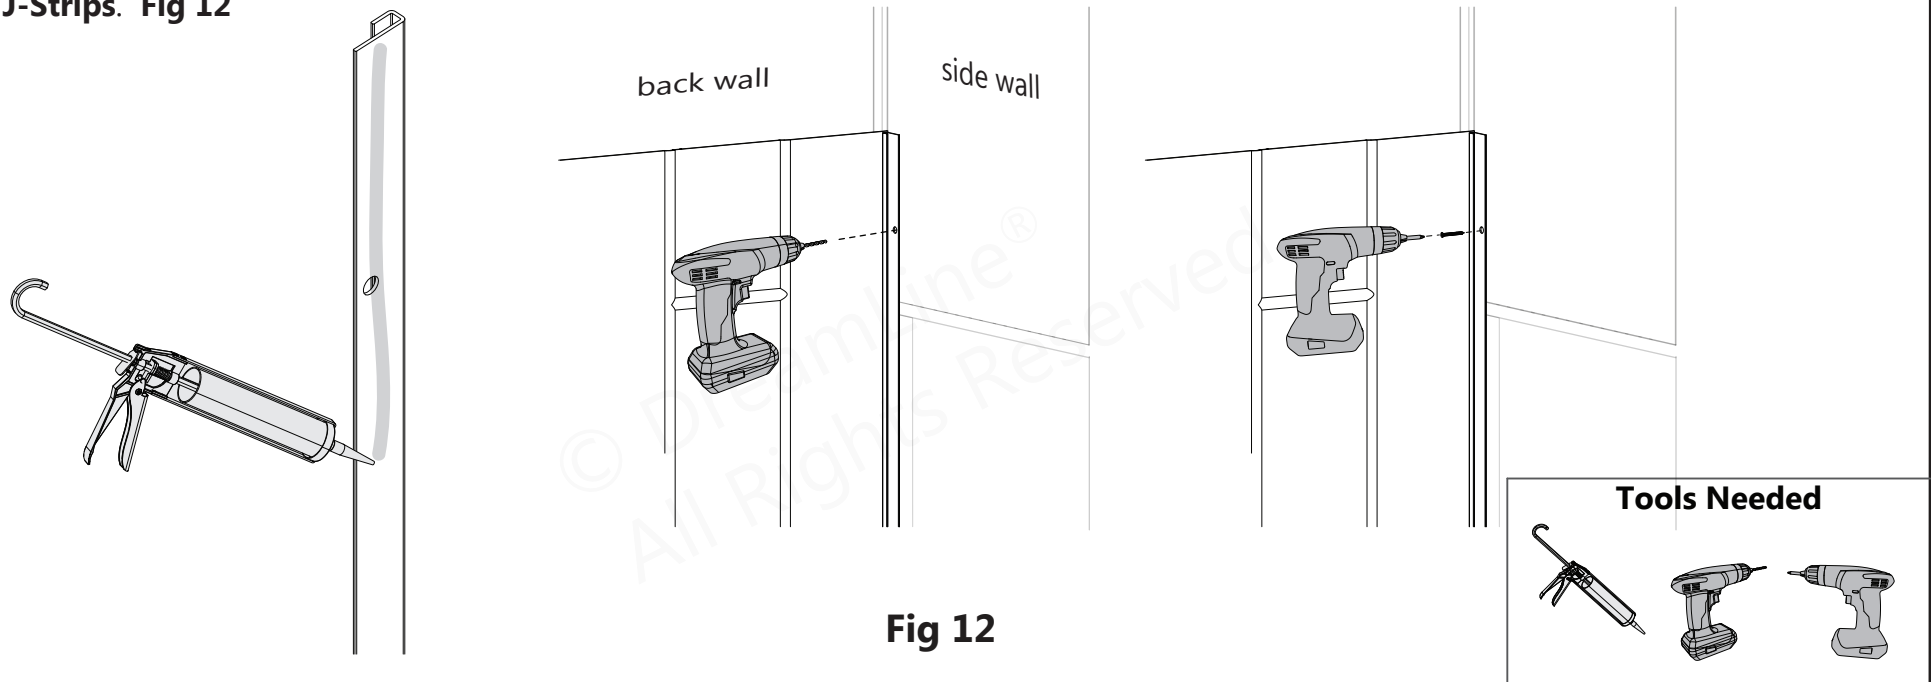

Fig 12
12. Apply clear silicone to the backs of both **J-Strips** and a thin bead of silicone into the corner of the opening. Press the J-Strips tight into the back corners. Wipe away any excess silicone with a clean rag. Use an $\text{\textcircled{O}} 1/8''$ bit to drill into the wall through the holes in the J-Strips. Secure the **J-Strips** with the **ST 4.2 x 30 Countersunk Screws (#05)**. Be sure the screw heads are flush with the surface of the **J-Strips**. **Fig 12**